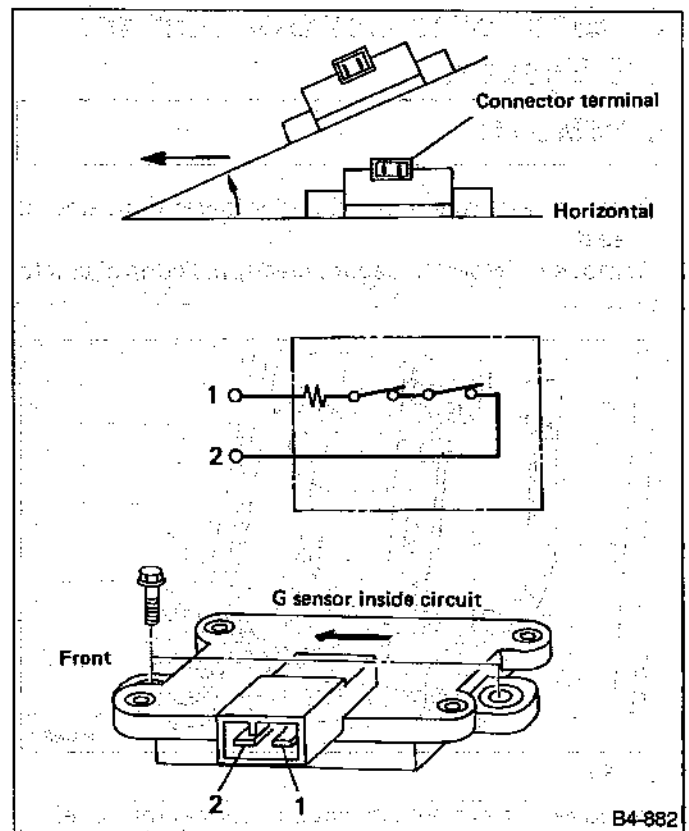

Fig. 173
- a. Tilt G sensor forward as shown in Figure 173. If it is tilted backward, it will not operate.